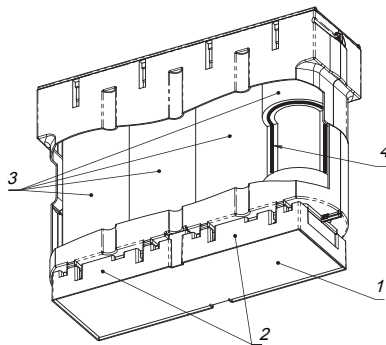

Figure 2. Filtering unit
The filtering unit (Figure 2) includes:
- Pre-filter (Figure 2, Pos. 1);
- Electrostatic unit (Figure 2, Pos. 2);
- High-capacity HEPA-filter (Figure 2, Pos. 3);
- Adsorption-catalytic filter (Figure 2, Pos. 4).
Pre-filter (Figure 2, Pos.1) of Tion Clever air purifier-decontaminator traps coarse dust and prevents dirt, fuzz and hair fiber from penetrating inside the device.
Passing through the electrostatic unit (Figure 2, Pos. 2), mechanical contaminant particles and bioaerosols acquire electrostatic charge and are effectively precipitated on the High-capacity HEPA filter (Figure 2, Pos. 3). Ozone produced in bactericidal concentrations out of oxygen in the electrostatic unit ensures the destruction of viruses, bacteria and mold spores. Such inactivation guarantees sustained sterility of the High-capacity HEPA filter during operation, including filter replacement operations. The used filters do not require any special disposal treatment. Therefore, complete microbiological sustainability of the filtration system is ensured.
Ozone is completely decomposed to oxygen while passing through the adsorption catalytic filter (Figure 2, Pos. 4), simultaneously enhancing the reaction rates of the chemical molecular compounds decomposition. The adsorption catalytic filter (Figure 2, Pos. 4) is designed for effective filtration of odors and harmful gaseous substances.
The technical maintenance of Tion Clever air purifier-decontaminator consists in scheduled cleaning of the electrostatic unit (Figure 2, Pos. 2), replacement of prefilter (Figure 2, Pos. 1) and High-capacity HEPA filters with adsorption catalytic filters (Figure 2, Pos. 3 and 4), which store mechanical impurities (dust and aerosols) and molecular contaminants along with natural depletion of their service life.